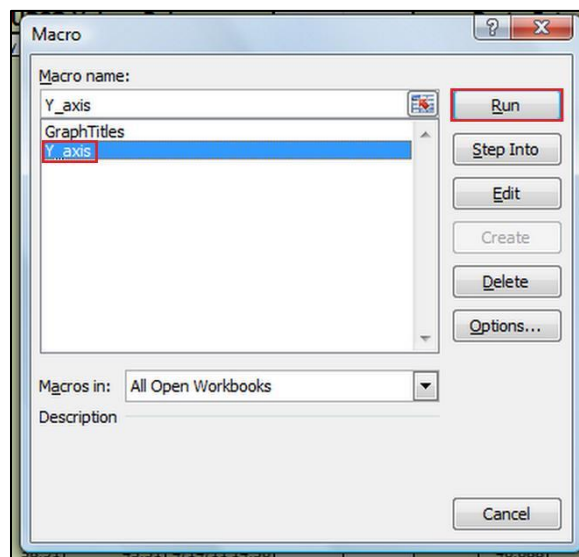

Figure 35: Long Term Template Macro Window with Annotated Selections
12. Choose the macro **Y_axis** and click **Run**, shown in Figure 35.